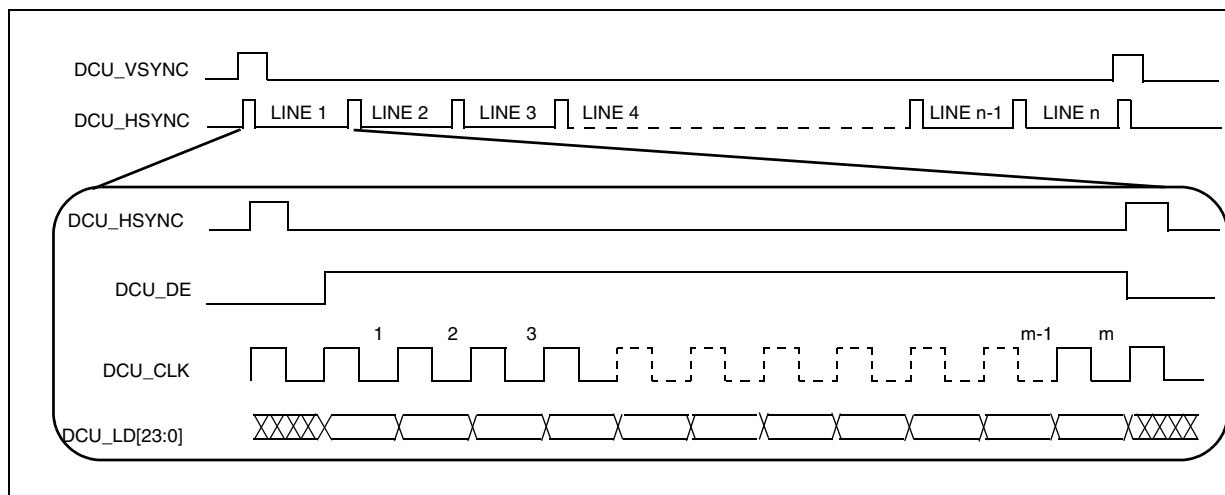

Figure 26. TFT LCD Interface Timing Overview1
Figure 26 depicts the LCD interface timing for a generic active matrix color TFT panel. In this figure signals are shown with positive polarity. The sequence of events for active matrix interface timing is:
1. In Figure 26, the “DCU\_LD[23:0]” signal is an aggregation of the DCU’s RGB signals—DCU\_R[0:7], DCU\_G[0:7] and DCU\_B[0:7].